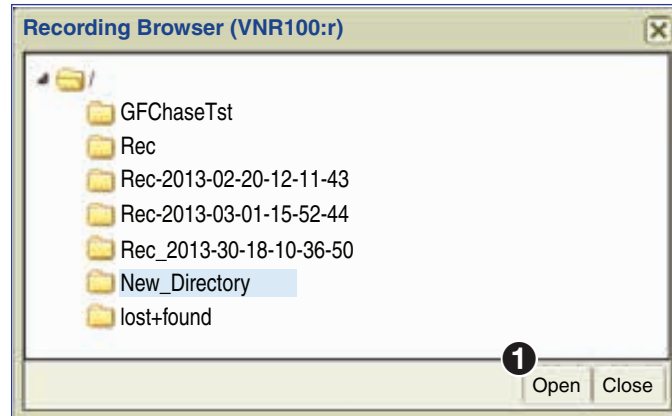

Figure 90. Recording Browser, Select and Open Directory
8. Select the new directory, and click **Open** to continue (see figure 90, ❶).